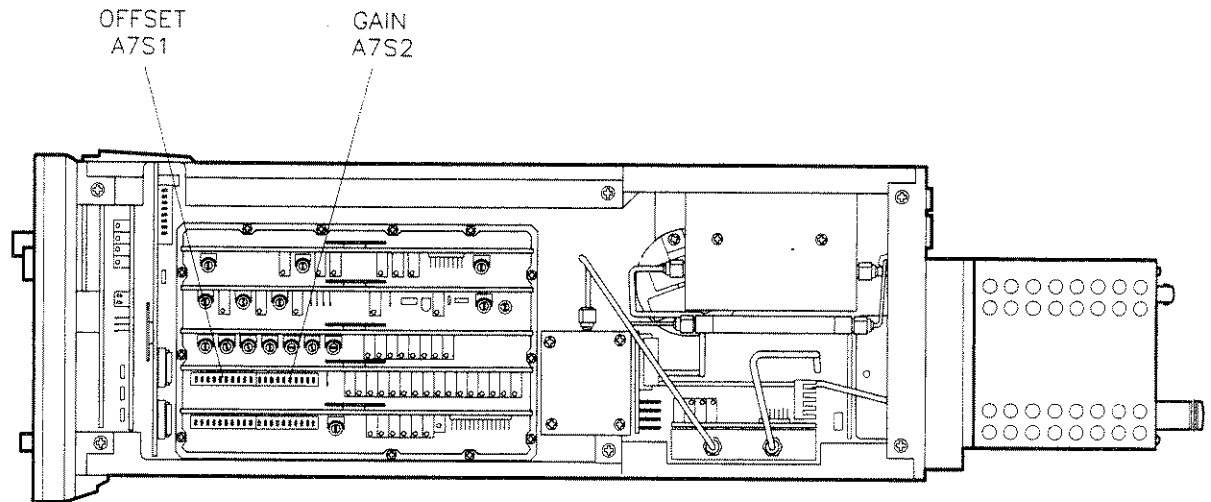
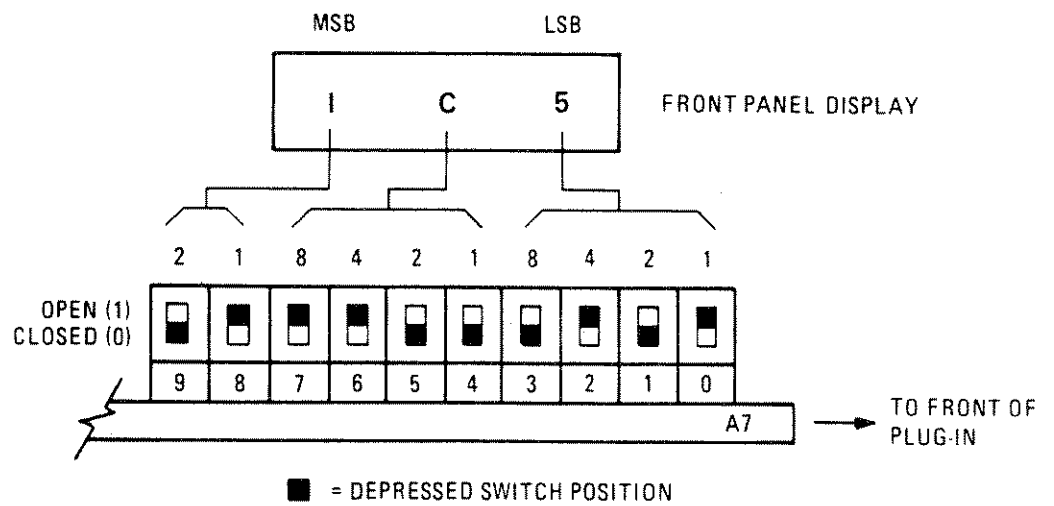

Figure 5-21. YTM to YO Tracking Calibration Switch Locations
Figure 5-22. YTM to YO Tracking Calibration Switch Configuration
7. Enter the number displayed on the plug-in POWER DISPLAY into A7S1 as shown in figure 5-22. See figure 5-21 for the switch location.
9. Enter the number displayed on the plug-in POWER display into A7S2 as shown in figure 5-22. See figure 5-21 for the switch location.